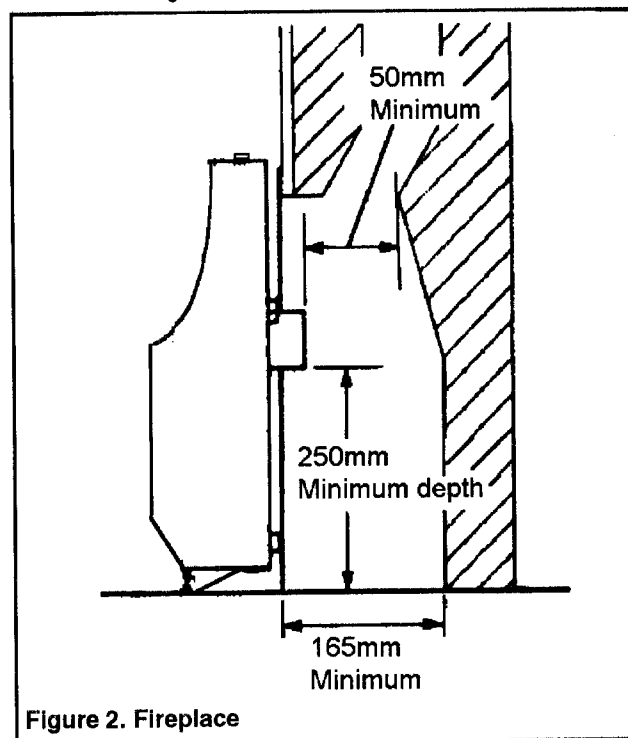

Figure 2. Fireplaces
See figure 2.
- 3.3.8. If the fire is fitted to a recessed fireplace, an extension flue spigot up to a maximum total length of 125mm may be used. The extension must be a tight fit over the flue spigot and be secured by two self tapping screws. Note the minimum clearance required as shown in figure 2.
- 4.1.1.** Place the fire centrally on the hearth making sure that the spigot lines up with the spigot hole in the closure plate. Gently slide the appliance into place. The spigot must enter the closure plate to a depth of at least 25mm (see figure 2).